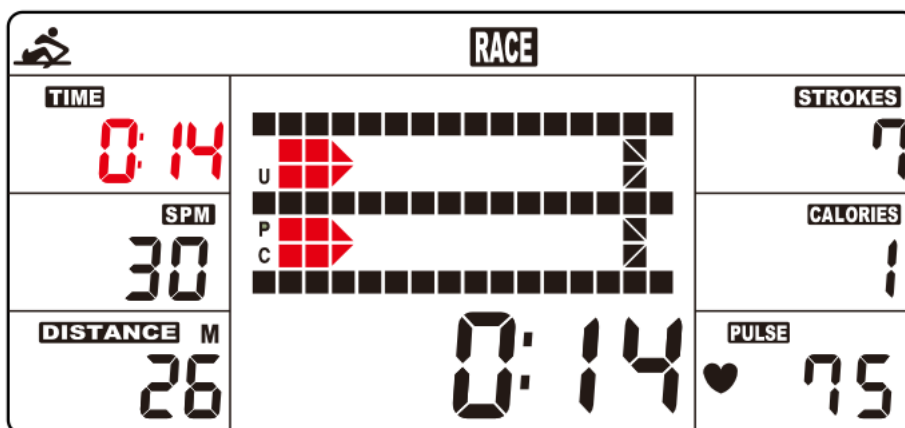
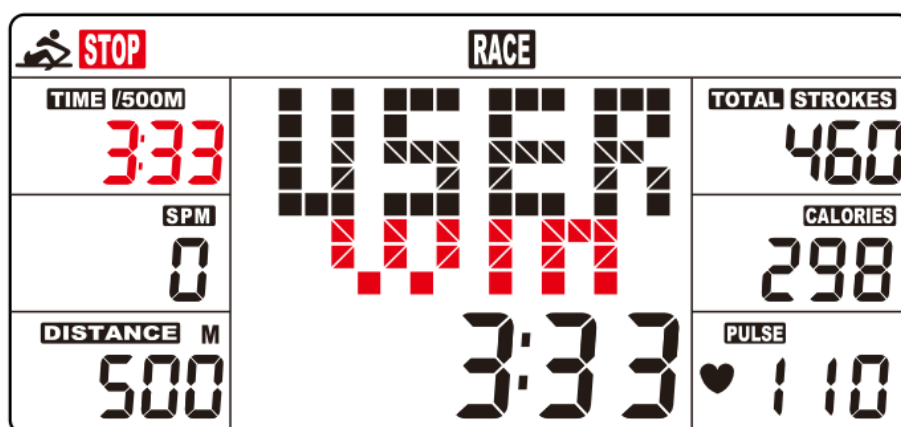

Fig. 5
Fig. 6
B. Press START button to start and STOP will disappear. The USER & PC will display in the matrix. (Fig. 5). The meter will stop when one has reached the distance of race which has been set before, then the matrix displays “PC WIN” or “USER WIN” (Fig. 6) .